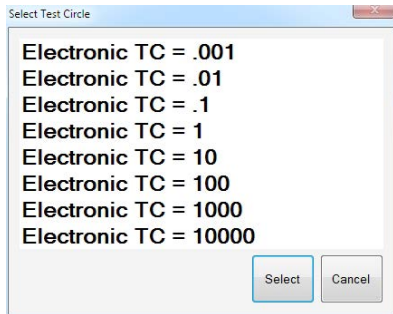
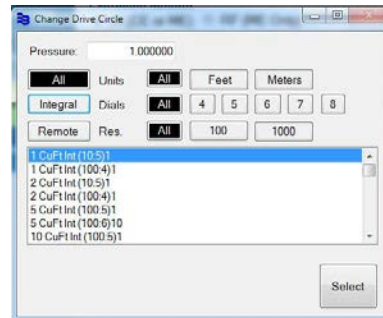

Figure 60: Water - Test Circle selection
Figure 61: Gas - Drive Circle selection
3. On the window that displays, select the appropriate meter size and unit of measure. For water endpoints, the Test Circle window will display. For gas endpoints, the Drive Circle window will display. An example of both windows is shown (Figure 60, Figure 61).